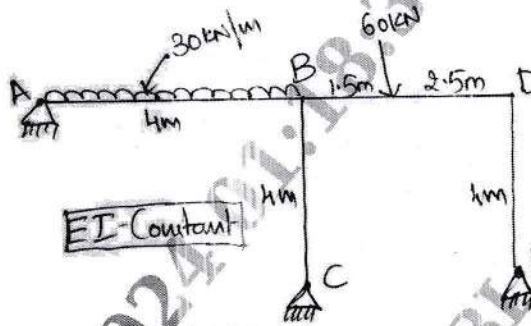

Fig.Q4
- 4 Analyse the frame shown in Fig.Q4 by moment distribution method and draw BM diagram and elastic curve.